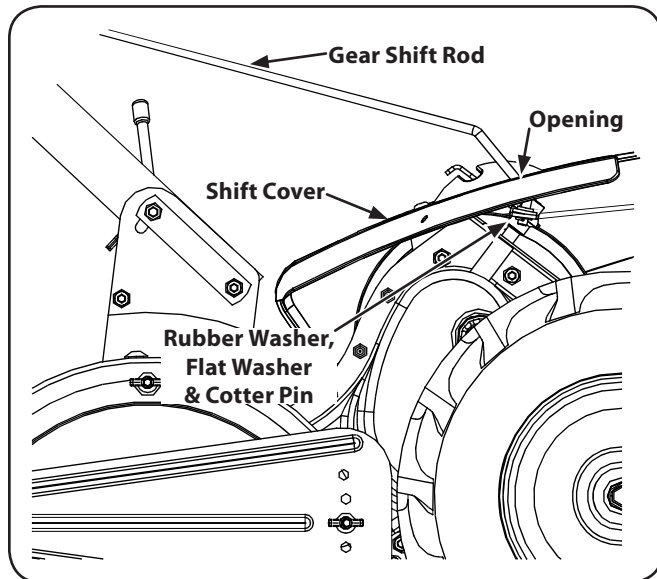

Figure 3-6
3. Insert the end of the gear shift rod through the opening in the top of the shift cover and into the shift bracket. First, secure the rubber washer then the flat washer and cotter pin. See Fig. 3-6.